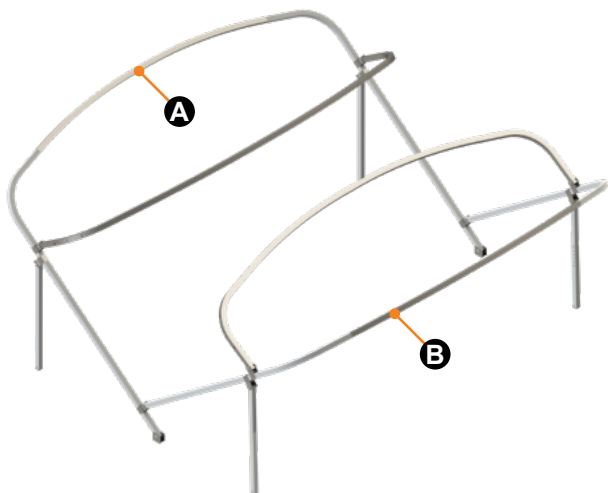

Fig.14
11. Figure 14 shows the completed primary (Fig.14A) and secondary (Fig.14B) bow and swivel arm assemblies.
3. Remove the two center H-brackets from the two primary bow assemblies (Fig.14). Set the Phillips head barrels, bolts and plastic washers aside for later use.